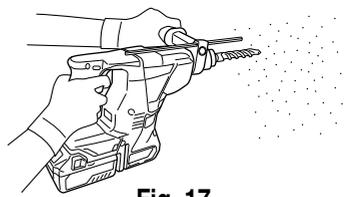

Fig. 17
- (1) Mount the drill bit.
- (2) Pull the trigger switch after applying the drill bit tip to the drilling position. (Fig. 17)
- (3) Pushing the rotary hammer forcibly is not necessary at all. Pushing slightly so that drill dust comes out gradually is just sufficient.
When the drill bit touches construction iron bar, the bit will stop immediately and the rotary hammer will react to revolve. Therefore please grip the side handle and handle tightly as shown in Fig. 17.